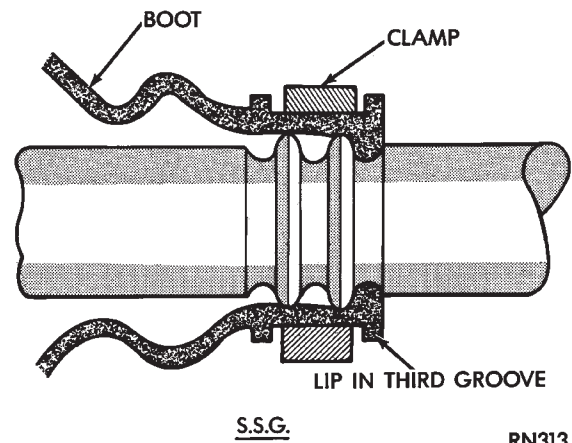

Fig. 14 Boot and Clamp Positioning S.S.G.
- (1) Slide small clamp onto shaft.
- (2) Position small end of boot over interconnecting shaft with lip of boot in third groove, towards center of interconnecting shaft (Fig. 14).
- (3) Position clamp evenly over boot. Place clamp installer Tool C-4975 over bridge of clamp and tighten